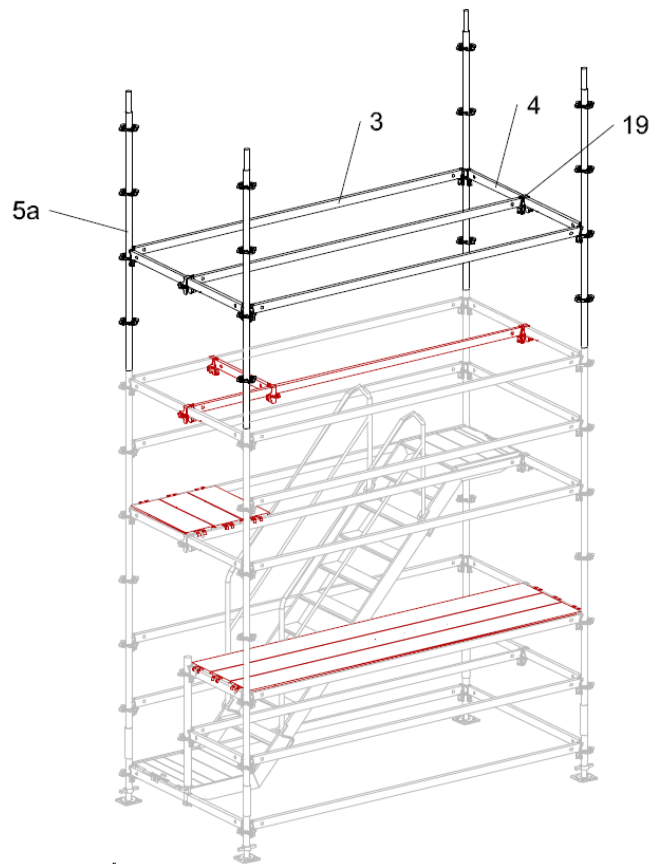

Fig.A3-1
Attach the internal Ledger UH 300 (3), connected to the end Ledgers UH 150 (4) with Ledger to Ledger Coupler UHA Half (19). (Fig A3-1)